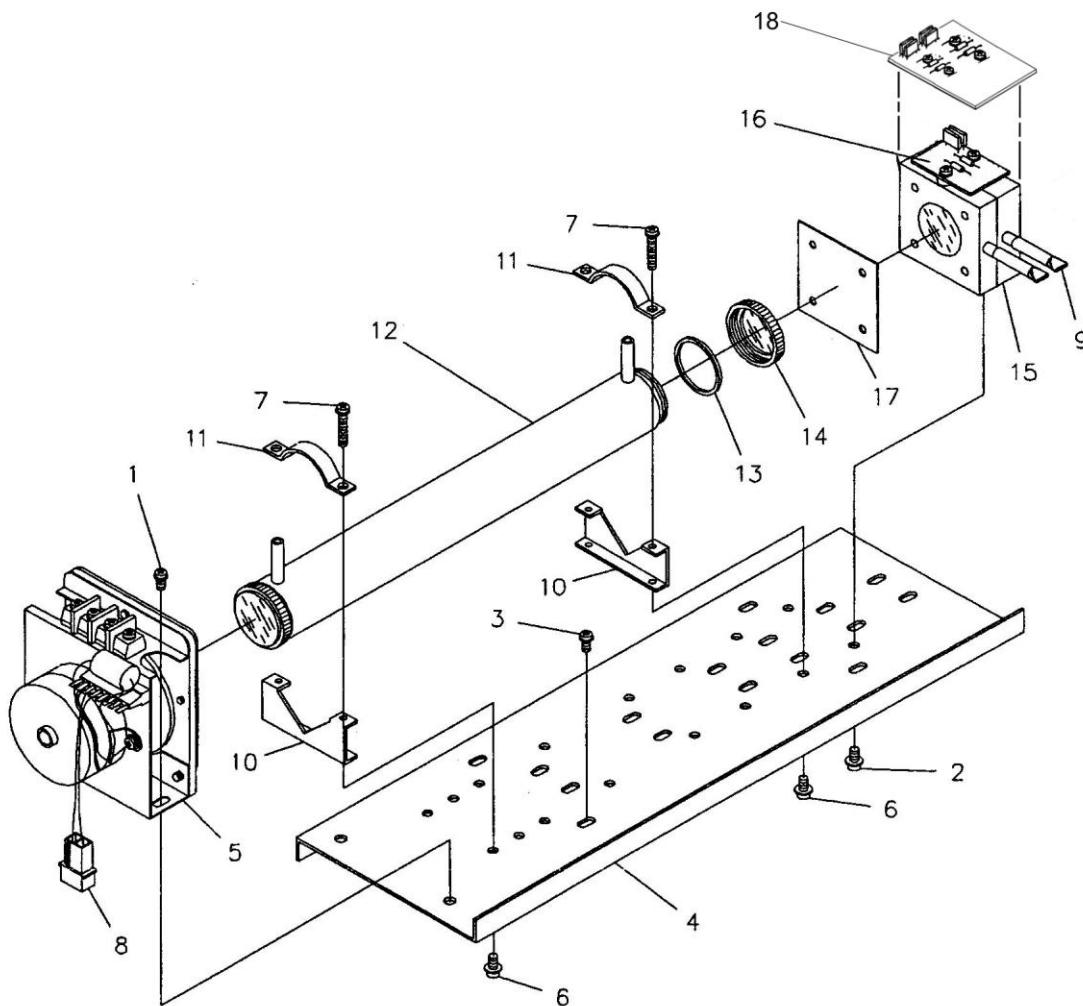
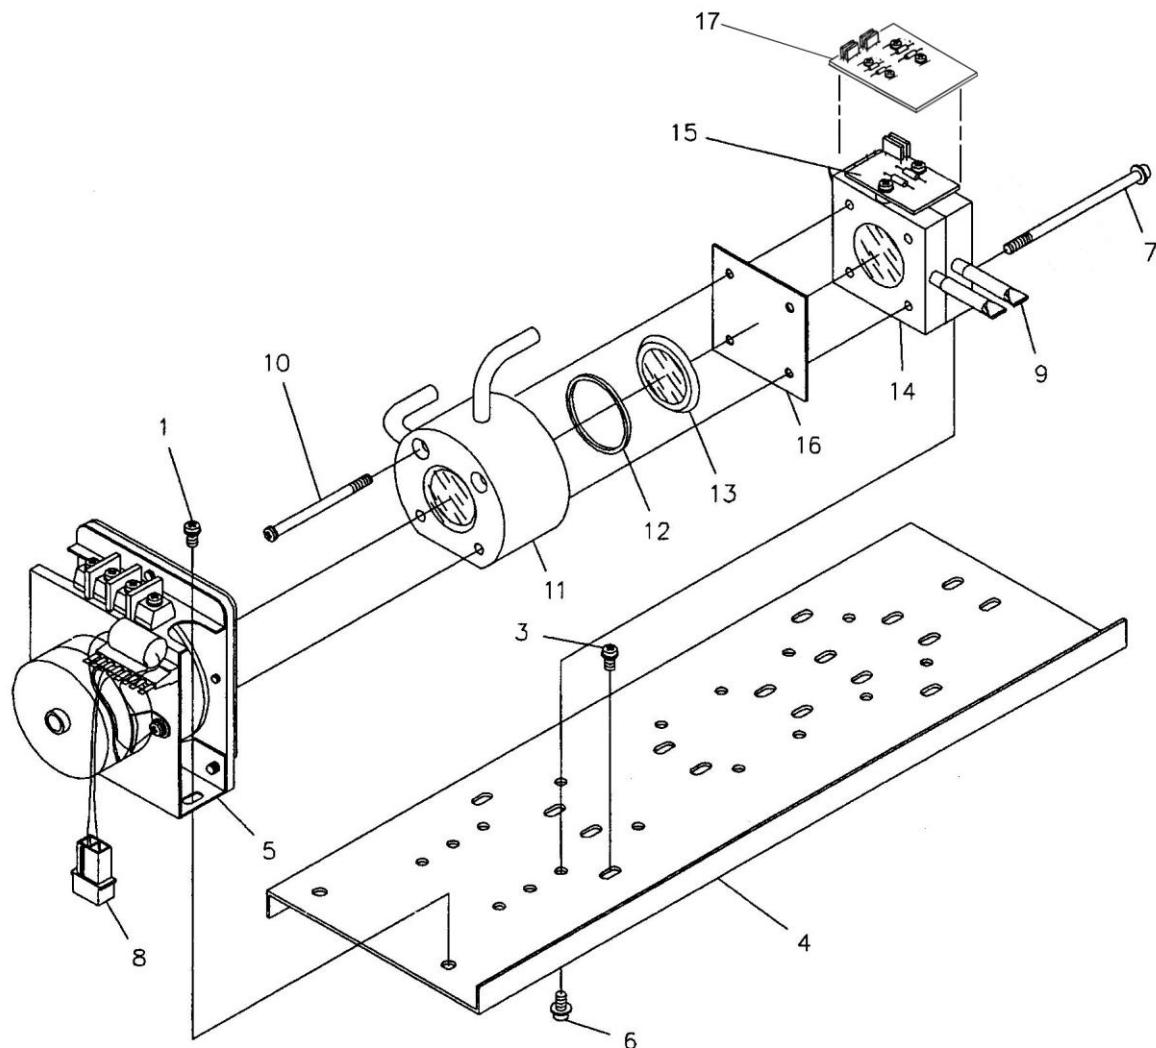
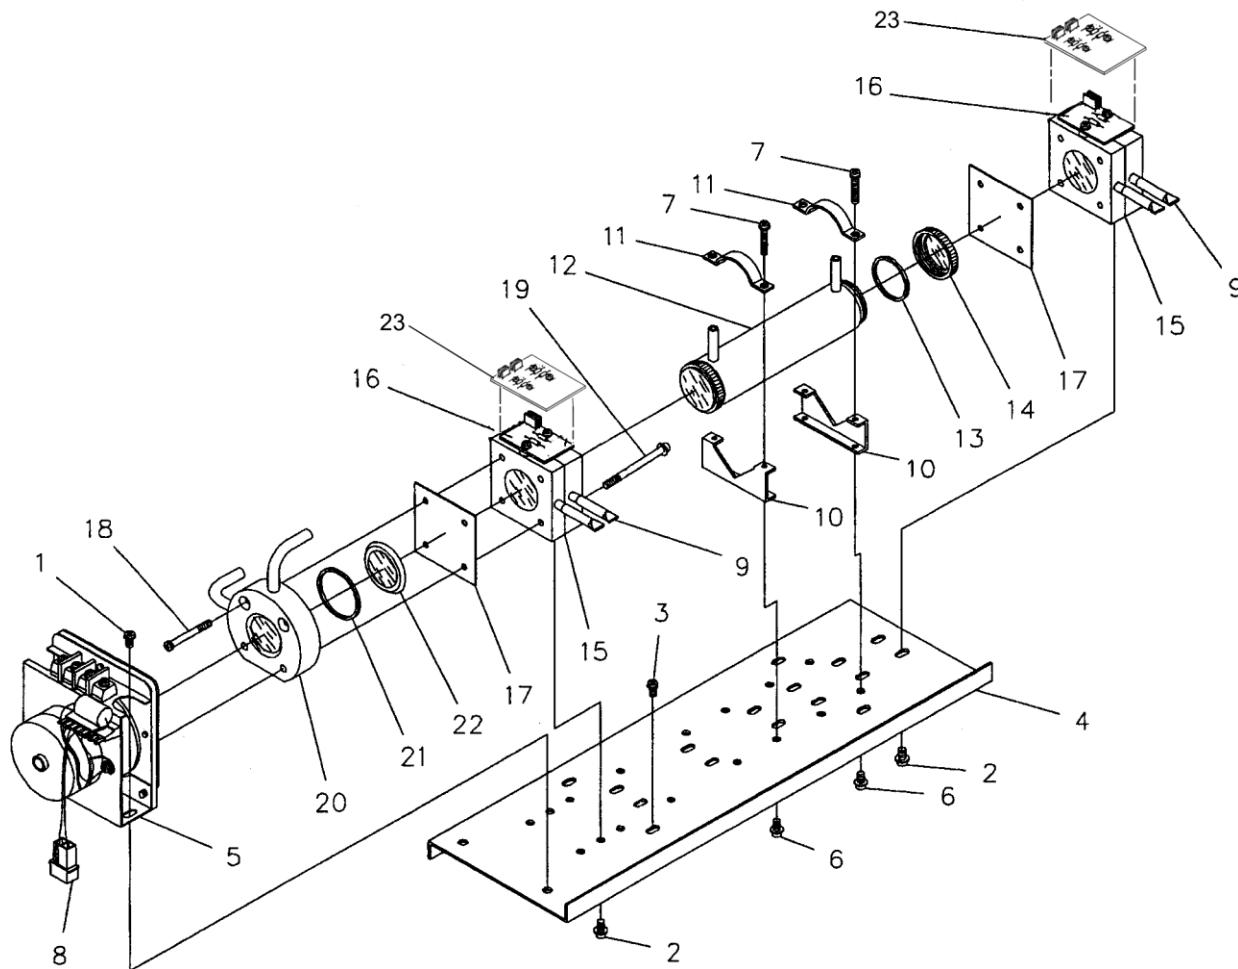

Figure 10-1 Optical Bench with Pipe Sample Cell
Figure 10-2 Optical Bench with Block Sample Cell
Figure 10-3 Optical Bench with Pipe and Block Type Sample Cells
(Figure 10-1)
- 5) After loosening (do not remove) the two screws (No. 1 in Figure 10-1) which are used for securing the infrared light source unit (No. 5 in Figure 10-1) to the base plate, shift the infrared light source away from the pipe cell (No. 12 in Figure 10-1) to form a gap.
- 6) After removing the pipe cell retainer screws (No. 7 in Figure 10-1), remove the retaining clamps (No. 11 in Figure 10-1).
- 8) At this time, inspect the O-Ring (No. 13 in Figure 10-1) for signs of deterioration. Replace if necessary.
- 10) The pipe cells contain a reflective metal foil liner (not shown in Figure 10-1) to enhance the light energy through put in the cell. Normally it is not necessary to remove the liner for cleaning; however, the liner should be removed if the cell is subjected to grossly excessive moisture. If necessary, clean both sides of the liner and the inside of the pipe cell. If the liner has been subjected to a corrosive substance, it should be replaced. In either case, ensure that the small gas holes in the liner are aligned with the gas fittings at both ends of the pipe cell before reassembling the windows.
(Figure 10-2)
- 6) Remove the two screws (No. 7 in Figure 10-2) attaching the detector to the infrared light source assembly and remove the detector from the optical bench. The cell is removed together with the detector as a unit.
- 7) While holding the detector in the palm of your hand, remove the two flat-head screws (No. 10 in figure 10-2) which fix the cell to the detector.
Note: The cell window (No. 10 in figure 10-2) is loose and is only retained by the clamping action between the detector and the block sample cell. Take care not to drop the window when separating the block cell from the detector.
(Figure 10-3)
- 5) Disconnect the wires from the two terminal screws of the infrared source unit and unplug the 2-pin connector (No. 8 in figure 10-3) from the chopper motor.
- 7) Remove the two screws (No. 1 in figure 10-3) that secure the infrared source unit to the base.
- 9) Remove the two screws (No. 19 in figure 10-3) that secure the detector to the infrared source then separate the detector and block cell from the infrared source unit.
- 10) While holding the detector in the palm of your hand, remove the two flat-head screws (No. 18 in figure 10-3) which fix the cell to the detector.
Note: the cell window (No. 10 in figure 10-3) is loose and is only retained by the clamping action between the detector and the block ample cell Take care not to drop the window when separating the block cell from the detector.
- 13) Remove the pipe cell retaining screws (No. 7 in figure 10-3)
- 14) Remove the retaining clamps (No. 11 in figure 10-3).
- 15) Lift the pipe cell out of its two supports (No. 10. in figure 10-3) and remove both windows (right-hand threaded) (No. 14 in figure 10-3).
- 16) At this time, inspect the O-Ring (No. 13 in Figure 10-3) for signs of deterioration. Replace if necessary.
- 18) The pipe cells contain a reflective metal foil liner (not shown in Figure 10-3) to enhance the light energy through put in the cell. Normally it is not necessary to remove the liner for cleaning; however, the liner should be removed if the cell is subjected to grossly excessive moisture. If necessary, clean both sides of the liner and the inside of the pipe cell. If the liner has been subjected to a corrosive substance, it should be replaced. In either case, ensure that the small gas holes in the liner are aligned with the gas fittings at both ends of the pipe cell before reassembling the windows.
(No. 15 in Figure 10-1 and Figure 10-3, No. 14 in Figure 10-2)
- 3) Replacement: After disconnecting wires from the two terminal screws and motor connector, remove the two screws that are used to attach the infrared light source unit to the optical bench. The light source assembly can be replaced, referring to Figure 10-1 or Figure 10-2.